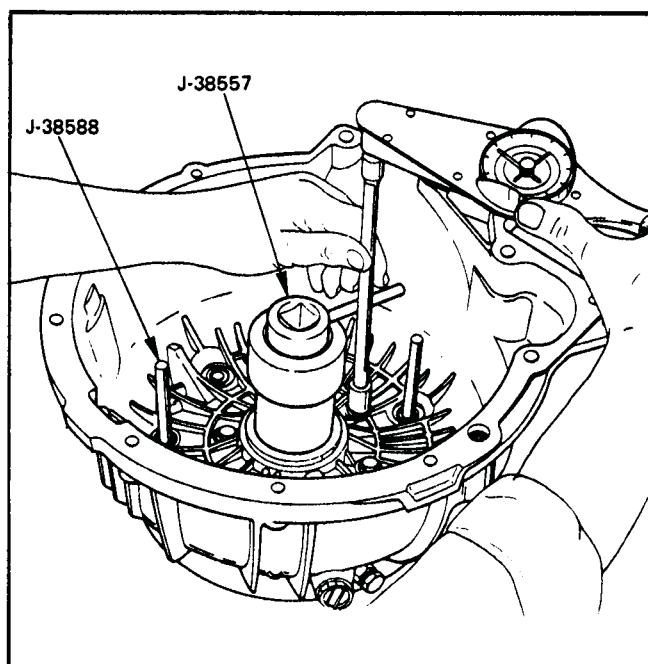

Figure 55
8. Install two short guide pins J-38588, as shown in Figure 55.
10. Center converter housing using pump centering tool J-38557, as shown in Figure 55.
11. Torque the pump bolts to 14 ft.lb., using a 13mm socket, in a alternating pattern as shown in Figure 55.